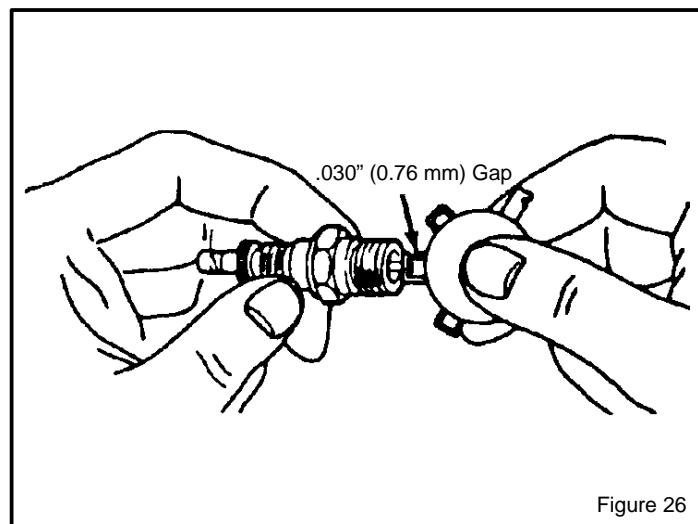

Figure 26
7. Set the gap between the electrodes of the new **spark plug** at 0.030 inch (Figure 26).